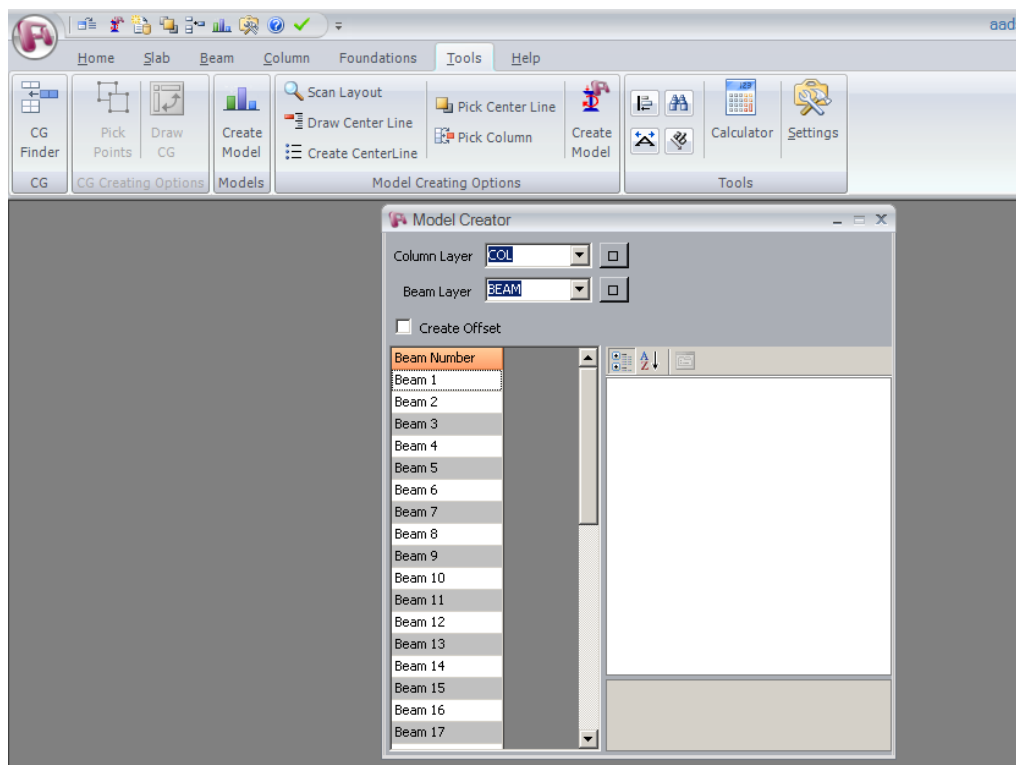

Fig 3.3
- Click on the **Scan Layout** from tool bar (**Fig 3.3**)